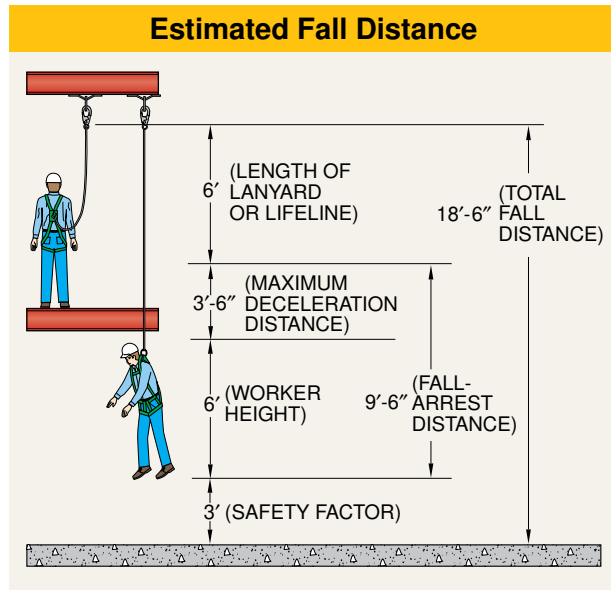

Figure 1-16. Always determine the estimated fall distance when selecting the proper personal fall-arrest system.
- It must be rigged so the technician can neither fall more than 6' nor contact any lower level. **See Figure 1-16.**